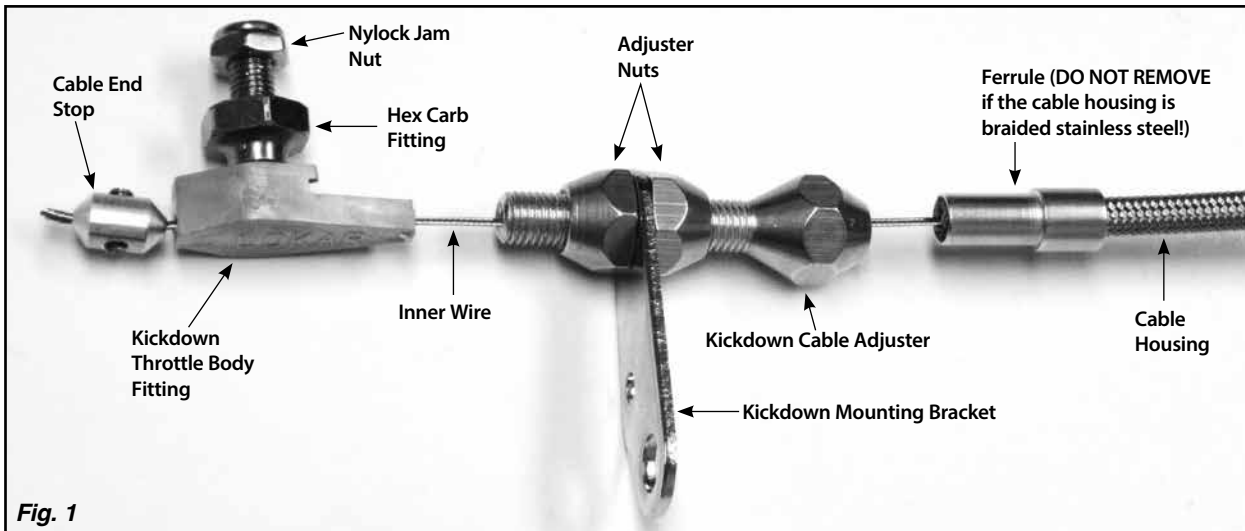

Fig. 1
Step 2: At the engine end of the Blower Drive Kickdown Cable, remove the cable end stop. Slide the kickdown throttle body fitting, kickdown mounting bracket and kickdown cable adjuster off of the inner wire. **DO NOT REMOVE the ferrule if the cable housing is braided stainless steel.** Pull the inner wire out of the cable housing. **Fig. 1**